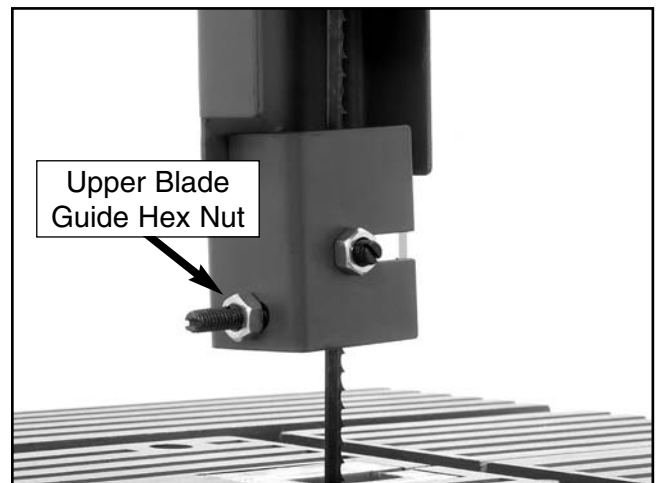

Figure 24. Upper blade guide assembly.
2. Loosen the hex nut shown in **Figure 24**.